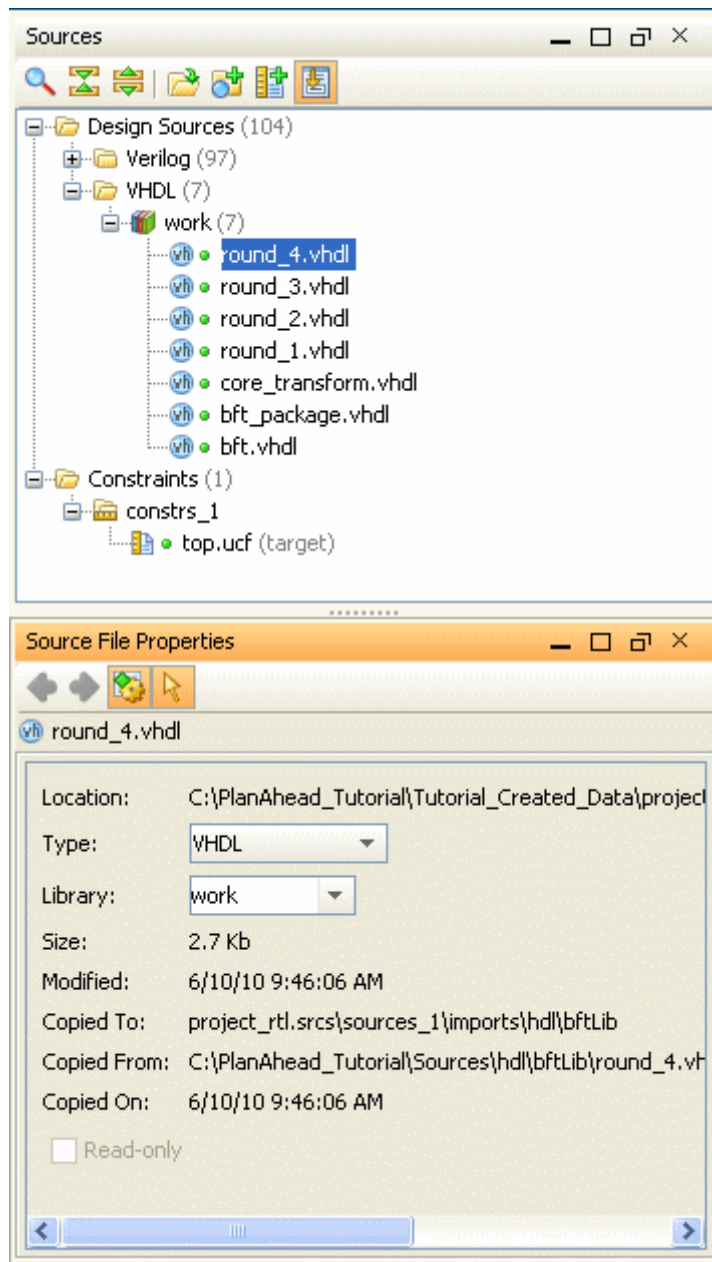

Figure 8: Viewing the Source Files Properties
- 2-1-5. View the source file information in the Source File Properties view (Figure 8).